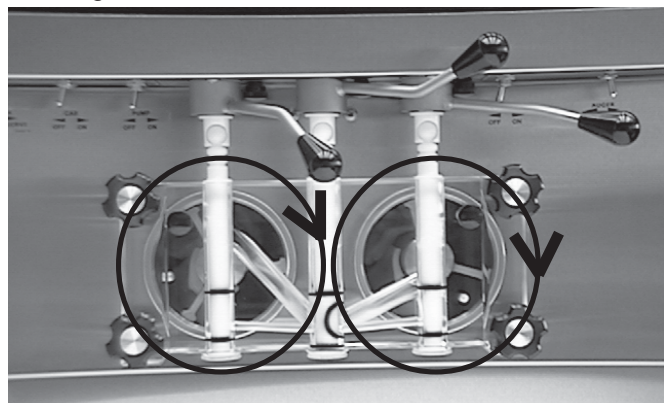

Figure 5. Auger Rotation
- D. Check the auger shaft rotation by placing the MAIN DRIVE switch in the CLEAN position. Auger shaft rotation is clockwise as viewed through the clear plastic front door. If the rotation is not clockwise, turn main electrical power OFF. Then reverse L1 and L3 electrical power lines to the junction box (three phase only). Re-check auger shaft rotation. Figure 5.